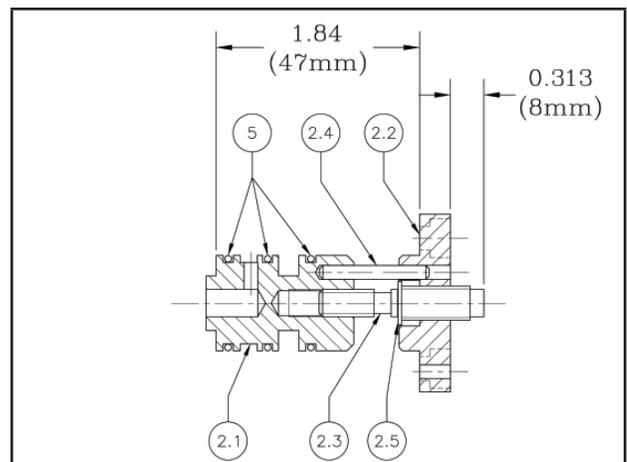

Figure 9: Sensor Sub-Assembly Dimensions
3. Remove name plate (10) by removing screw (9).
4. Remove four sensor end plate screws (8).
5. Grasp sensor end plate (2.2) and withdraw vertically from housing (1). Lay sensor subassembly (see Figure 9) on work surface; take care to not lose sensor pin (2.4) in handling.
6. Hand-grasp housing (1) and rotate CCW (viewed from knob end) to removal. Keep track of the number of revolutions to removal in table of Step 2, previous. Take care not to invert and drop the sensor plate subassembly (15) from the housing (1) internals in handling.
7. Remove thermal bulb (12) from vise, taking care not to invert and drop Invar rod (13) (also extension post (14)) of the thermal bulb (12) and cause end damage to rod (13) (also post (14)). Examine bulb (12) interior for signs of leakage; recommend complete 764T replacement if leakage is discovered.
8. Holding the housing (1) in a vise, remove the sensor plate O-ring (6) using an awl-type tool, and discard. **DO NOT DAMAGE METAL SURFACES!**
9. Remove the housing (1) from the vise, invert housing (1) with hand covering knob-end to allow sensor plate subassembly (15) to drop/slide out of the housing (1); it may be necessary to push adapter (15.2) to remove the sensor plate subassembly (15).
10. Pick up sensor subassembly (2). Allow sensor pin (2.4) to be removed. Rotate sensor (2.1) CCW (viewed from sensor end) to removal. Keep track of the number of rotations to remove the sensor (2.1) from the adjusting screw (2.3) in the following table:
12. Remove three O-rings (5) from sensor (2.1).
13. Pick up housing (1). Using a suitable screwdriver, rotate needle valve (3) CW until it seats. Keep track of the number of revolutions required to seat the needle valve (3) and record in table below:
14. Reverse the rotation of the needle valve (3) and fully remove. Remove needle valve O-ring (7).
16. Install new O-rings on the needle valve (7), and three on sensor (5).
17. Place thermal bulb (12) back into a vise. Insert Invar rod (13) (also extension post (14)) into thermal bulb (12).
18. Re-assemble sensor subassembly (2) end plate (2.2), adjusting screw (2.3), and sensor (2.1) per the recorded number of revolutions of Step 10, this sub-section; this will give "preliminary" adjustment. See Figure 9 for "final" adjustment dimensions of the sensor subassembly (2). Rotate sensor (2.1) as required to the closest hole available to allow sensor pin (2.4) to be inserted; insert pin (2.4).
A. Improper sensor sub-assembly setting.	A. Remove sensor sub-assembly. Check dimension to those indicated in Figure 9. If dimension is correct, and high setting cannot be reached, decrease dim "X" by rotating sensor end plate 1/2 revolution CW; reverse for lower setting.